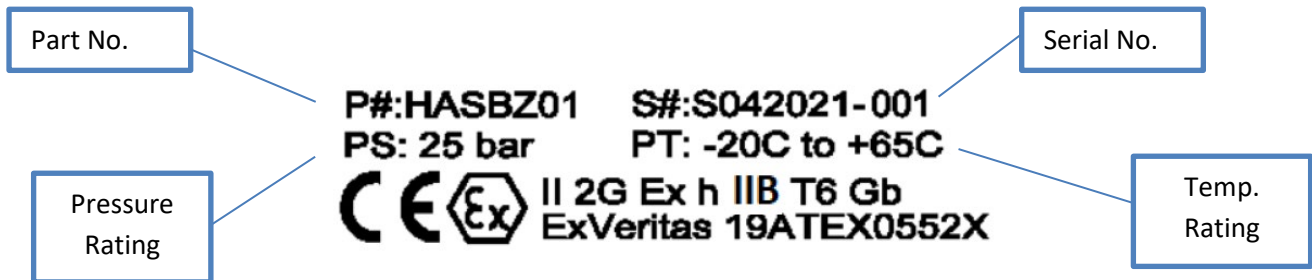

Figure 1
Before installation commences it is essential to check that material and performance specifications are acceptable for the specific end user application. The pressure rating (PS) and other safe operating limits and primary materials of construction relating to each Smartflow product are clearly identified on the data label of each product, see Figure 1.